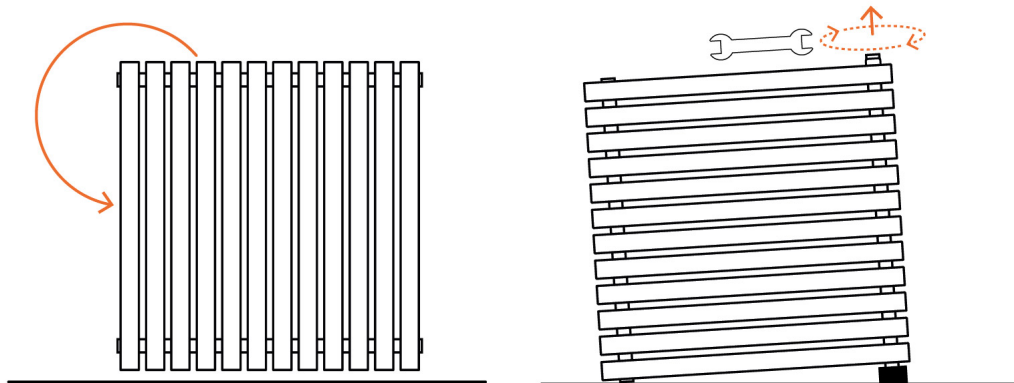

Figure 2 | Inlet tilted to its highest point before filling.
3. Tilt the radiator until the fitting location is at the highest point, as shown in **Figure 2**. This prevents any fluid escaping if your radiator is pre-filled.